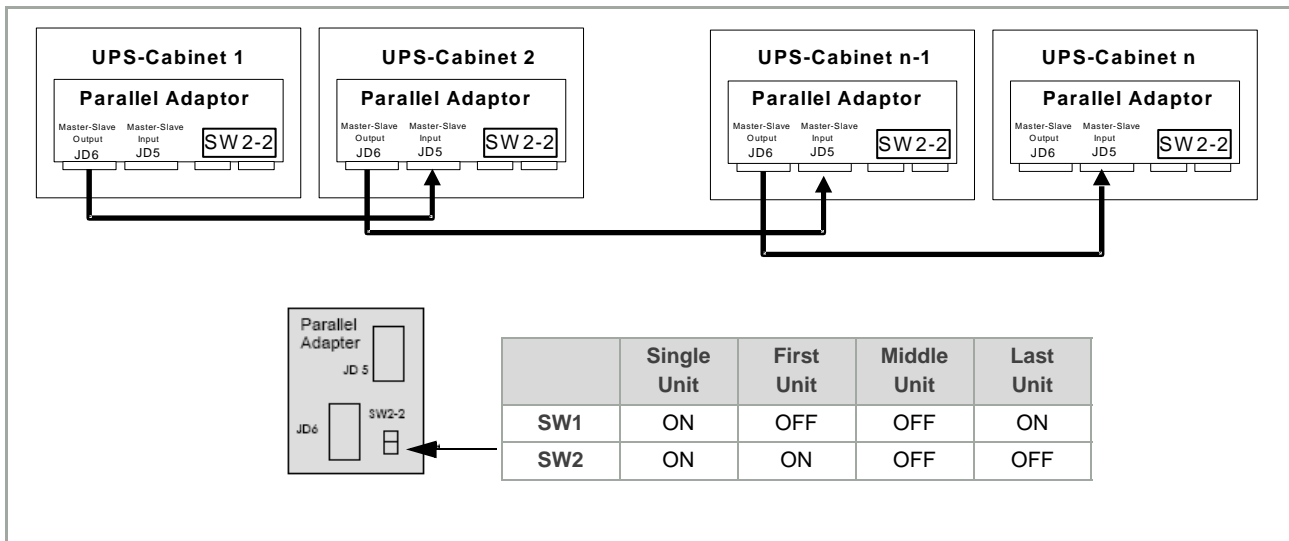

Figure 3.20 Connection of the Bus-lines when paralleling UPS-Cabinet Parallel Adaptors
Communication BUS lines are connected as shown below (See Figure 3.20).
Note: The Parallel Adapter contains two connectors, JD5 and JD6 and a DIP switch (SW2) (see Figure 3.20).
5. Continue in the same manner for the remaining UPS-Cabinets, as illustrated in Figure 3.20.
6. In each cabinet, set DIP Switch SW2-2 on the Parallel Adapter according to the cabinet configuration, as shown in Figure 3.20.
- the *first* cabinet in the chain (e.g. *cabinet 1* in Figure 3.20).
- the *last* cabinet in the chain (e.g. *cabinet n* in Figure 3.20).